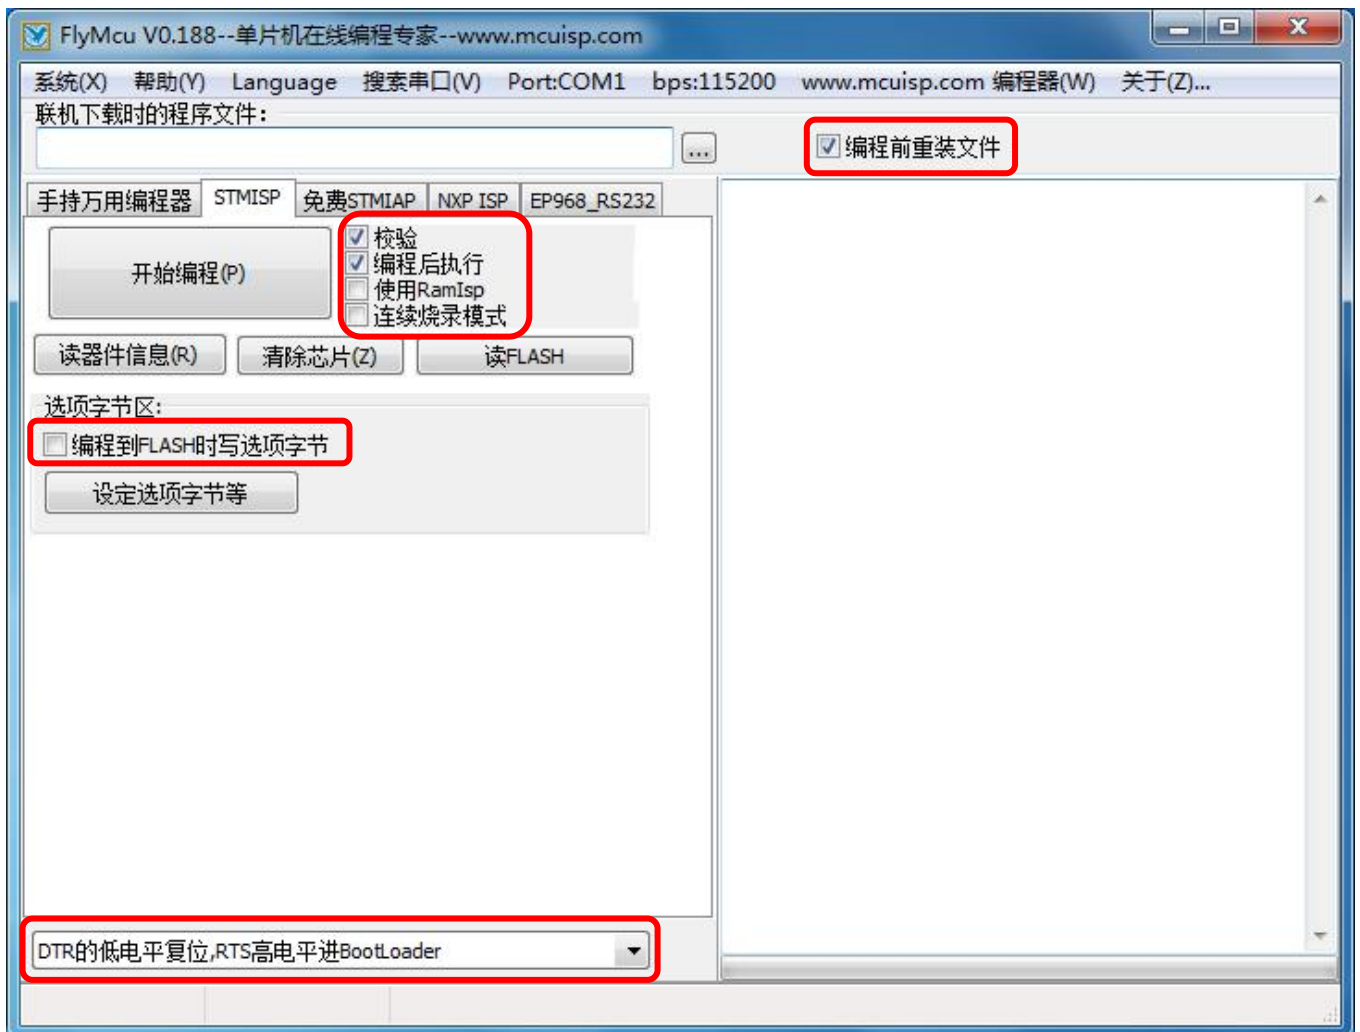

Figure 15 : Configuration of FlyMcu
4) Open the FlyMcu downloading tool and configure it as shown in Figure 15.